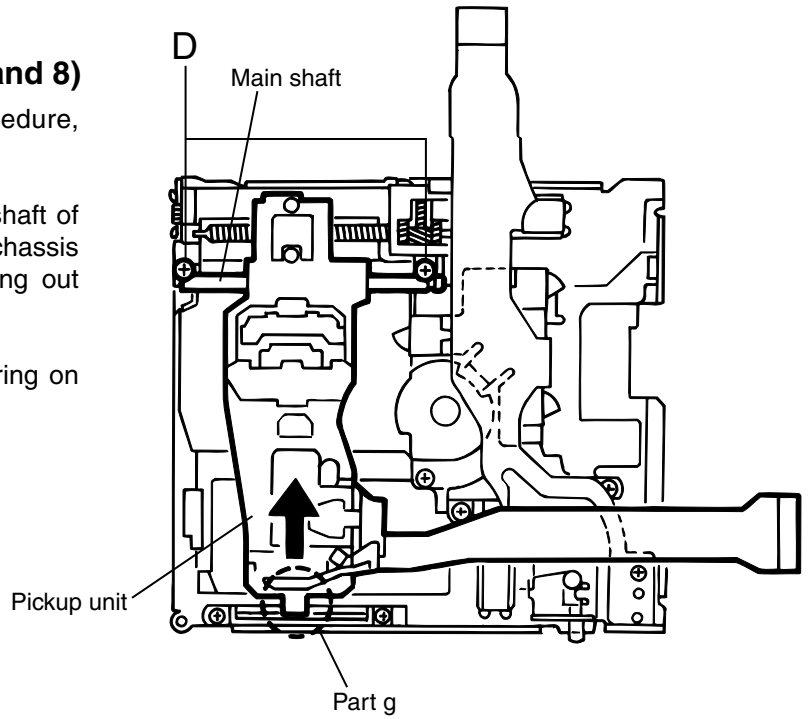

Fig. 7
7. Remove the MD door assembly from the body while pulling out the flexible wires another end of which has already disconnected as shown in Fig.7.
(See Fig.7 to 10)
(See Fig.7 and 11)**
- 1. Disconnect the flexible wire from connector CN--- on the main board (See Fig.7).
(See Fig.7 and 8)